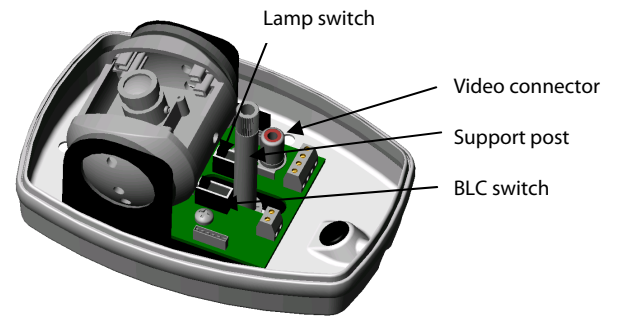

Figure 5
- 1 Connect a video monitor to the video connector on the main circuit board. See Figure 5.
The BLC (backlight compensation) switch adjusts the brightness of the image based on light levels in specific areas of the video picture. See Figure 5.
The Indicator Lamp in the audio module bezel can be turned ON or OFF as desired using the lamp switch. See Figure 5.